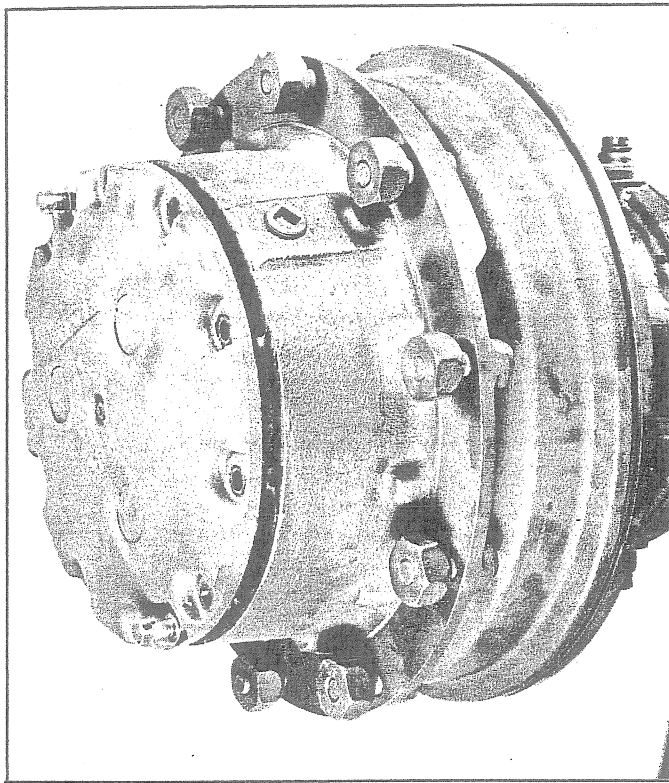

Fig. 2 - Separating Planetary from Hub
2. Remove the bolts and washers securing the planetary assembly to the axle hub. Screw two of the bolts into the puller holes and separate the planetary assembly from the hub as shown in Fig. 2.